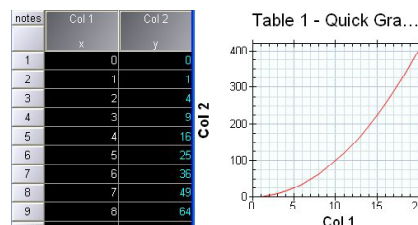

Figure 46
- Draw a quick graph (Figure 46).